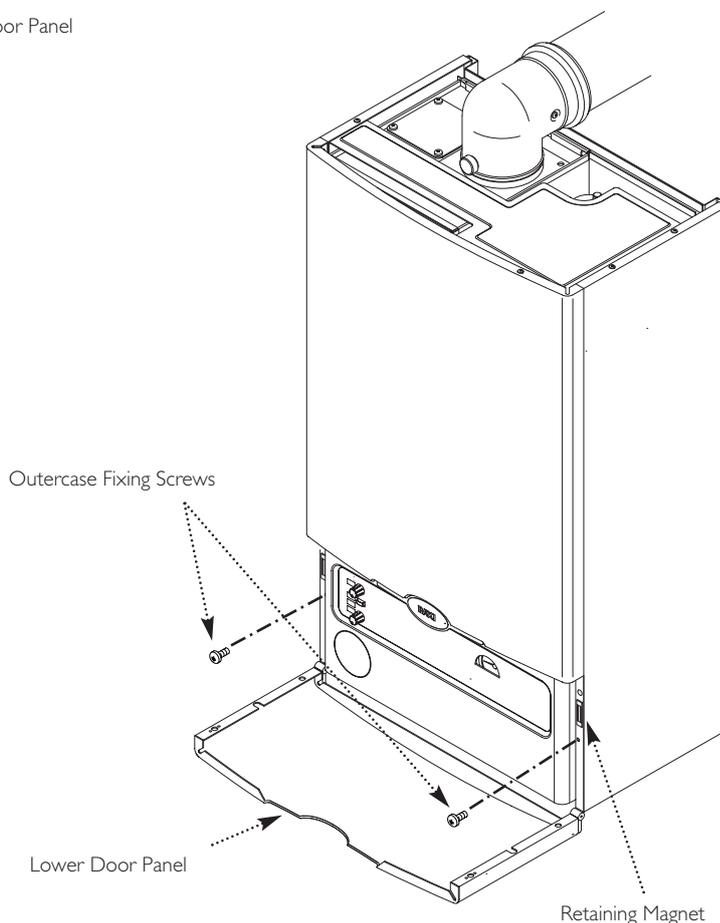

Fig. 39
2. Insert the two fixing screws into the sides of the chassis (Fig. 39).
3. Close the lower door panel against the retaining magnets (Fig. 39).